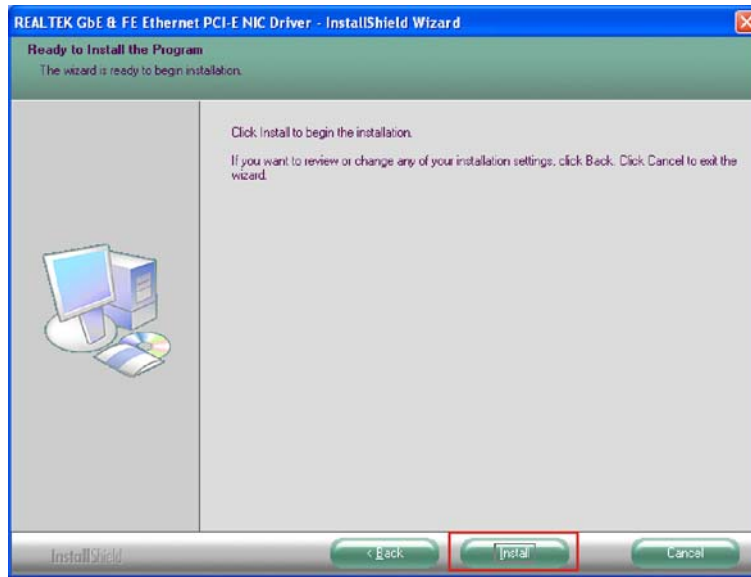

Figure 7-18: LAN Driver Installation Ready
Step 6: The LAN driver is ready to install (**Figure 7-18**).